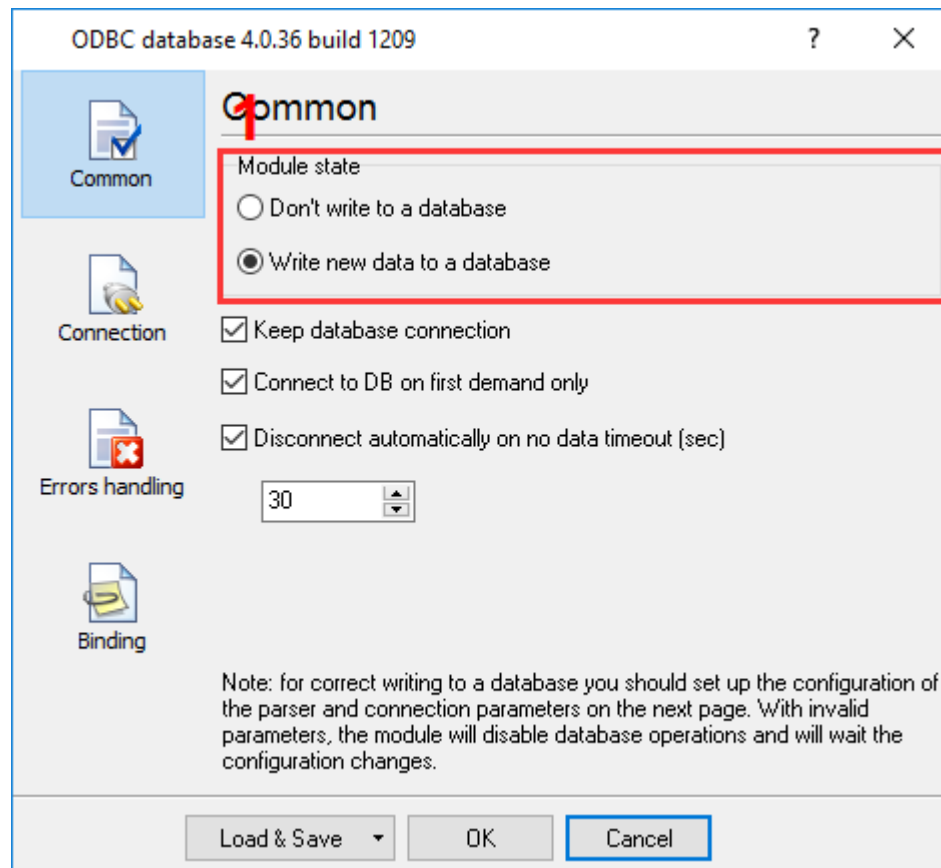

Figure 3. Enabling logging to the database
6. Click the "Load & Save" button (Figure 3), and select:
7. Switch to the "Common" tab (Figure 3) and enable data logging to the database.